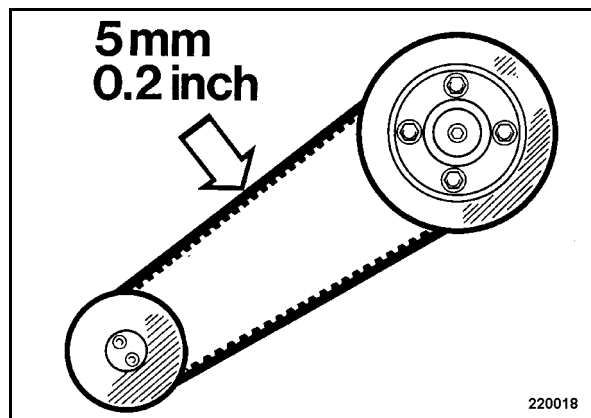

Fig. 44
- Compression measurement approx. 5 mm (Fig. 44).